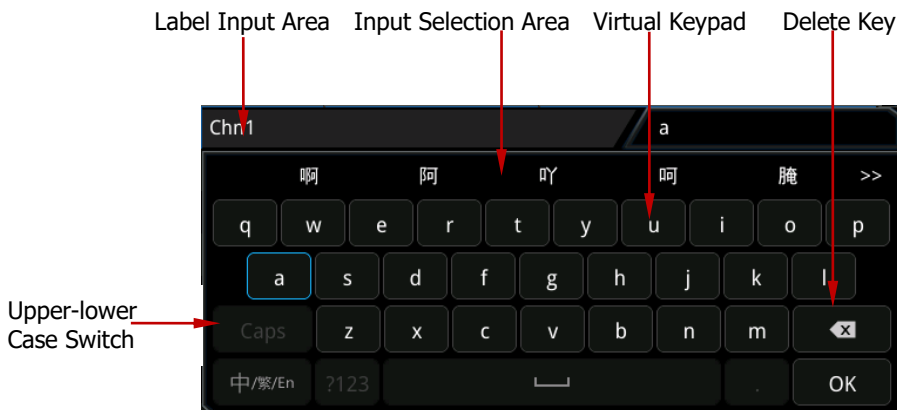

Figure 2-3 Label Editing Interface (Chinese Input Method)
- Press **Label** and the label editing interface is automatically displayed as shown in Figure 2-3. You can input the label manually. For the label input method, refer to "To Create a Folder".